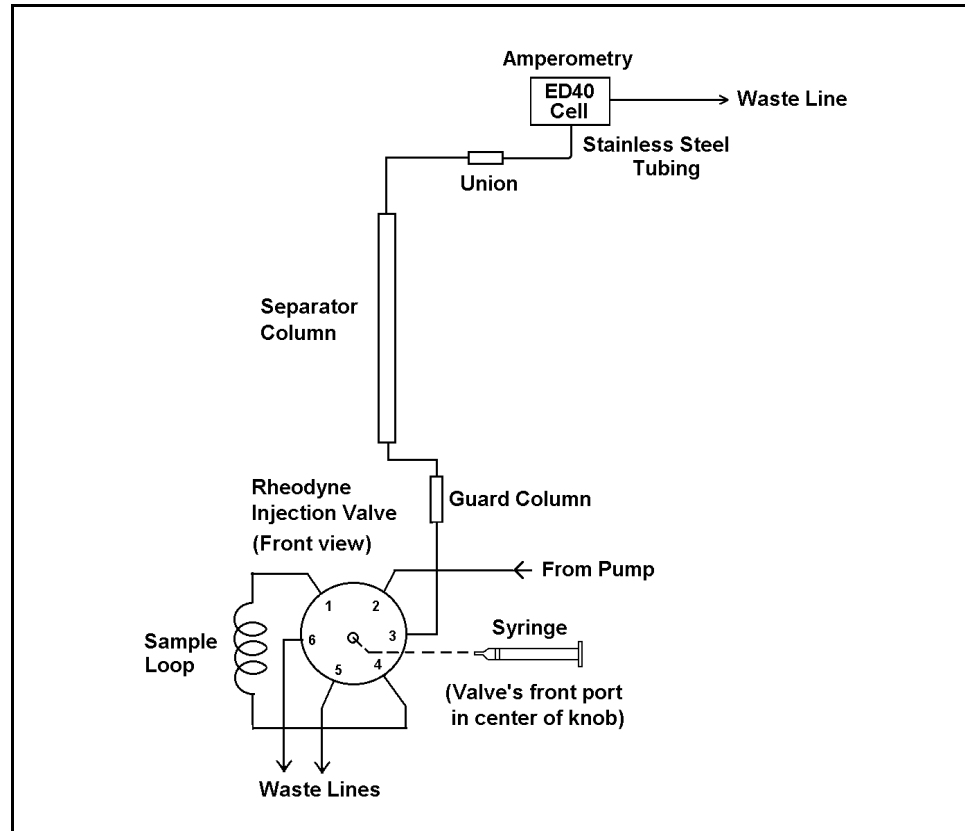

Figure B-7. Amperometry Cell Plumbing Schematic
- *Amperometry*: Figure B-7 shows the plumbing configuration for systems that use an ED40 amperometry cell. These systems include an LC30 oven, an ED40 detector, and either a GP40 or an IP20 pump.